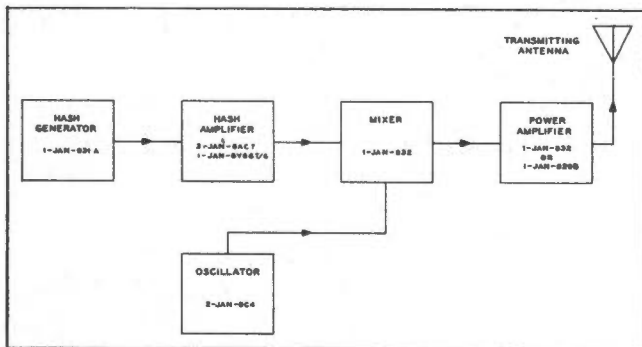

Figure 4-1. Radar Transmitter T-28/APT-1
c. The block diagram in figure 4-1 shows the component parts of the transmitter. The location of these parts is shown in figure 2-10 and 4-2.
(1) Hash is generated by the type JAN-931-A multiplier phototube V1 in the hash generator circuit.
(2) The hash is amplified by a four stage wide band amplifier consisting of three JAN-6AC7 (V2, V3, V4) tubes and one JAN-6V6GT/G (V5) tube.
(3) A high frequency signal is generated in the oscillator circuit which consists of two JAN-6C4 tubes (V6, V7).
(4) The hash is mixed with the oscillator signal in the JAN-832 (V8) mixer circuit. The output circuit of the mixer is tuned to one of the side bands and not to the carrier frequency.
(5) The output of the mixer circuit is amplified by a JAN-832 (V9) tube and then fed to the antenna to be radiated.